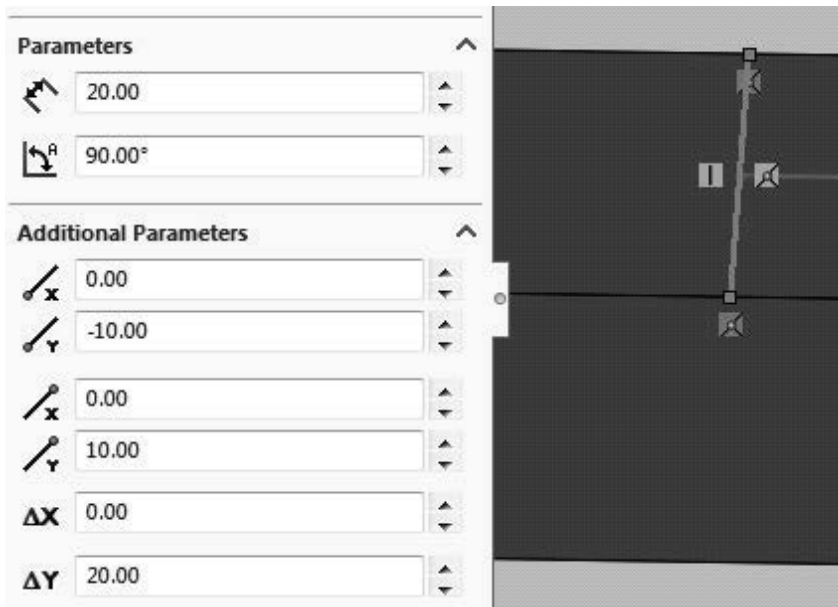

Figure 2.10 Drawing of a line in the Z-direction
- Next, we will create a split line. Repeat step 6 once again but this time select the **Top Plane** and draw a line in the Z-direction through the origin of the lower inner surface of the sketch. It will help to zoom in and rotate the view to complete this step. Set the **Parameters** and **Additional Parameters** to the values shown in figure 2.10 and close the dialog. Click on the **Rebuild** symbol.